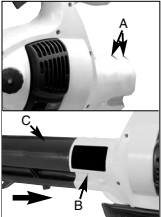

Fig. 1A
1. Release the screws (A) and remove the screw (B). Insert blower tube (C) into the blower housing and replace screw (B). Tighten screws (A). (Fig. 1A)